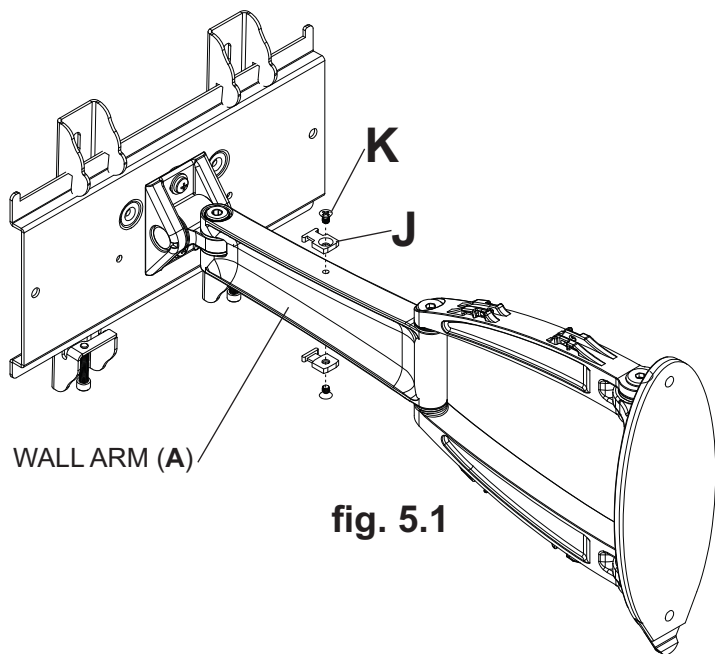

fig. 5.1
**5-1** Attach cable tie anchor (J) to top or bottom of wall arm (A) using 8-32 x 1/4" phillips screw (K) as shown in figure 5.1.